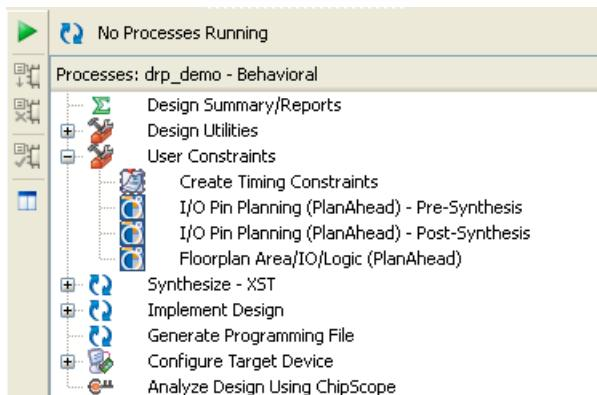

Figure 15-1: Project Navigator Processes Pane
- In the Processes pane, expand **User Constraints** and double-click **IO Pin Planning (PlanAhead) - Pre-Synthesis**, as shown in Figure 15-1, page 421.